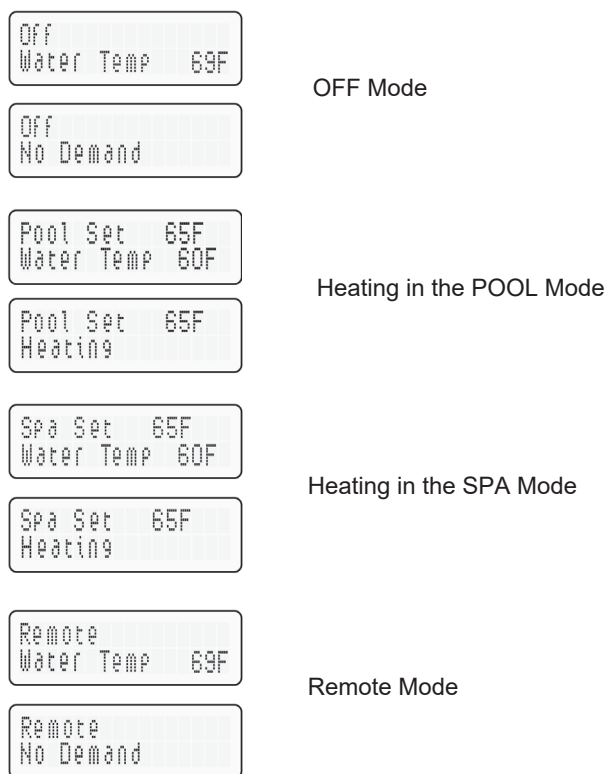

Figure 45. Remote Control Menu - Remote Operation
**⚠ CAUTION:** Before installing remote controls to the heaters, read the following: The digital thermostat model is remote-ready in most cases. The digital liquid crystal display (LCD) shows the actual pool temperature, operating status, and service codes. See Figure 45. The touch pad on the control panel allows you to select the desired pool or spa temperature. It also indicates when a remote system is controlling the heater by displaying **Remote** in the display. When connecting the heater to a remote system, identify whether it is a two- or three-wire remote system. Select the appropriate instruction listed below to properly install the remote to the heater.